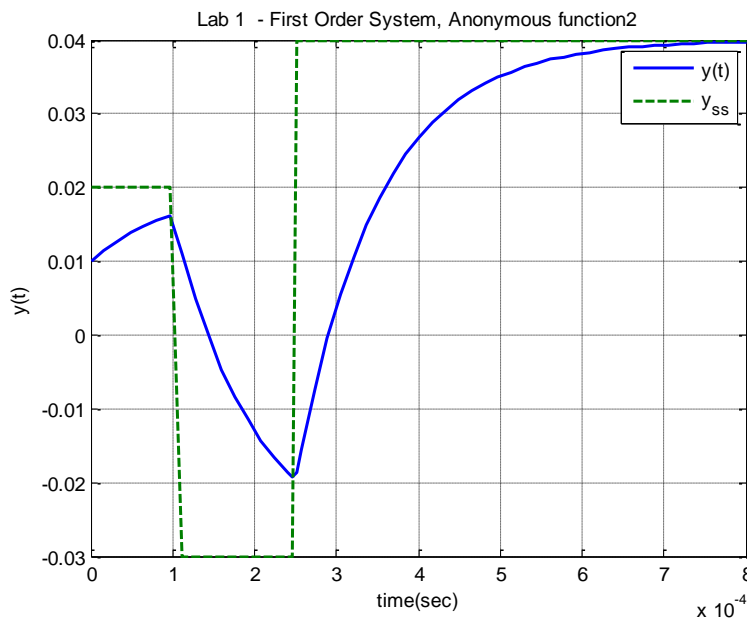

Figure 21: Step Response with an Anonymous Function
12. Comment out the axis command, and run the code. If you have done everything correctly, you should get the graph in Figure 21. Include this graph in your lab memo submission.